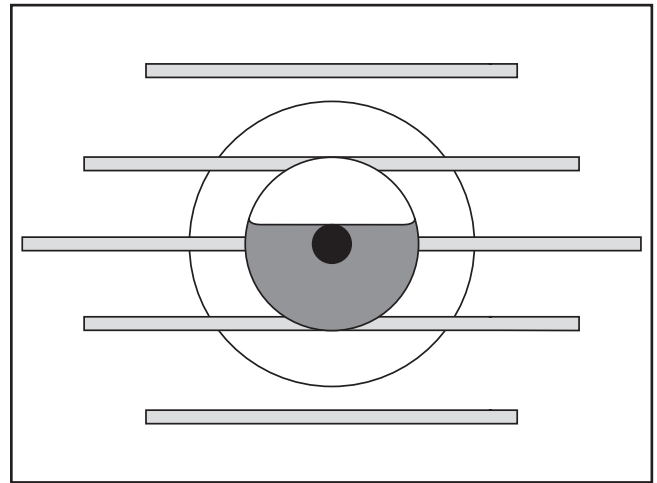

Figure 20. The correct pump oil level in the viewport.
6. Remove the oil cap and fill with SAE 30 oil. Add oil slowly and check the level frequently. The pump is full when oil is just past the red dot, covering the lower $\frac{2}{3}$ of the viewing port (**Figure 20**). Do not overfill.